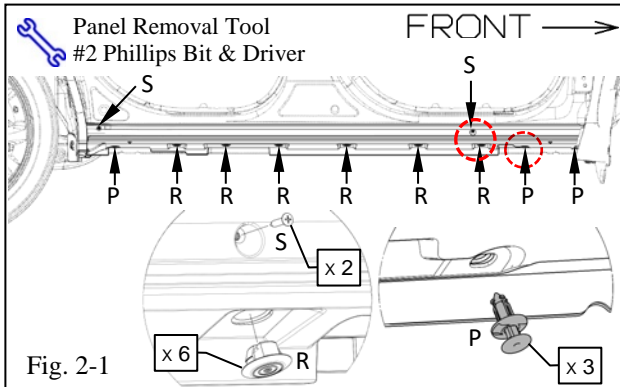
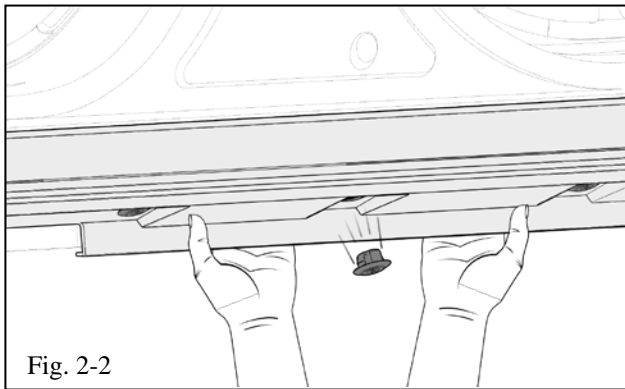

Fig. 2-1
Fig. 2-2
-  ③ Wakai Nut
-  ④ Flag Bolt
-  ① M6 Rivnut
-  ⑧ Mylar Plug Sticker
- (a) Using a #2 Phillips driver, unfasten two (2) screws (S). One (1) at the front and one (1) at the rear of the rocker panel molding (Fig. 2-1).
- (b) Using a panel removal tool, remove and discard the two (2) push-pins (P) at the front and one (1) at the rear (Fig. 2-1).
- (c) Pull the cladding down and out along the bottom for each of the six (6) rocker panel molding retainers (R) – this will cause them to pop out of the rocker (Fig. 2-1, & Fig. 2-2). Discard the retainers.